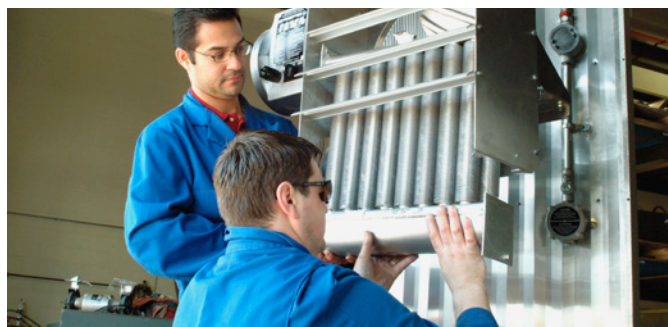

Figure 11
- 2.4 With an assistant supporting the weight of the core, remove the 3 core mounting bolts. Carefully lower the core out of the cabinet (see Figure 11, page 18).